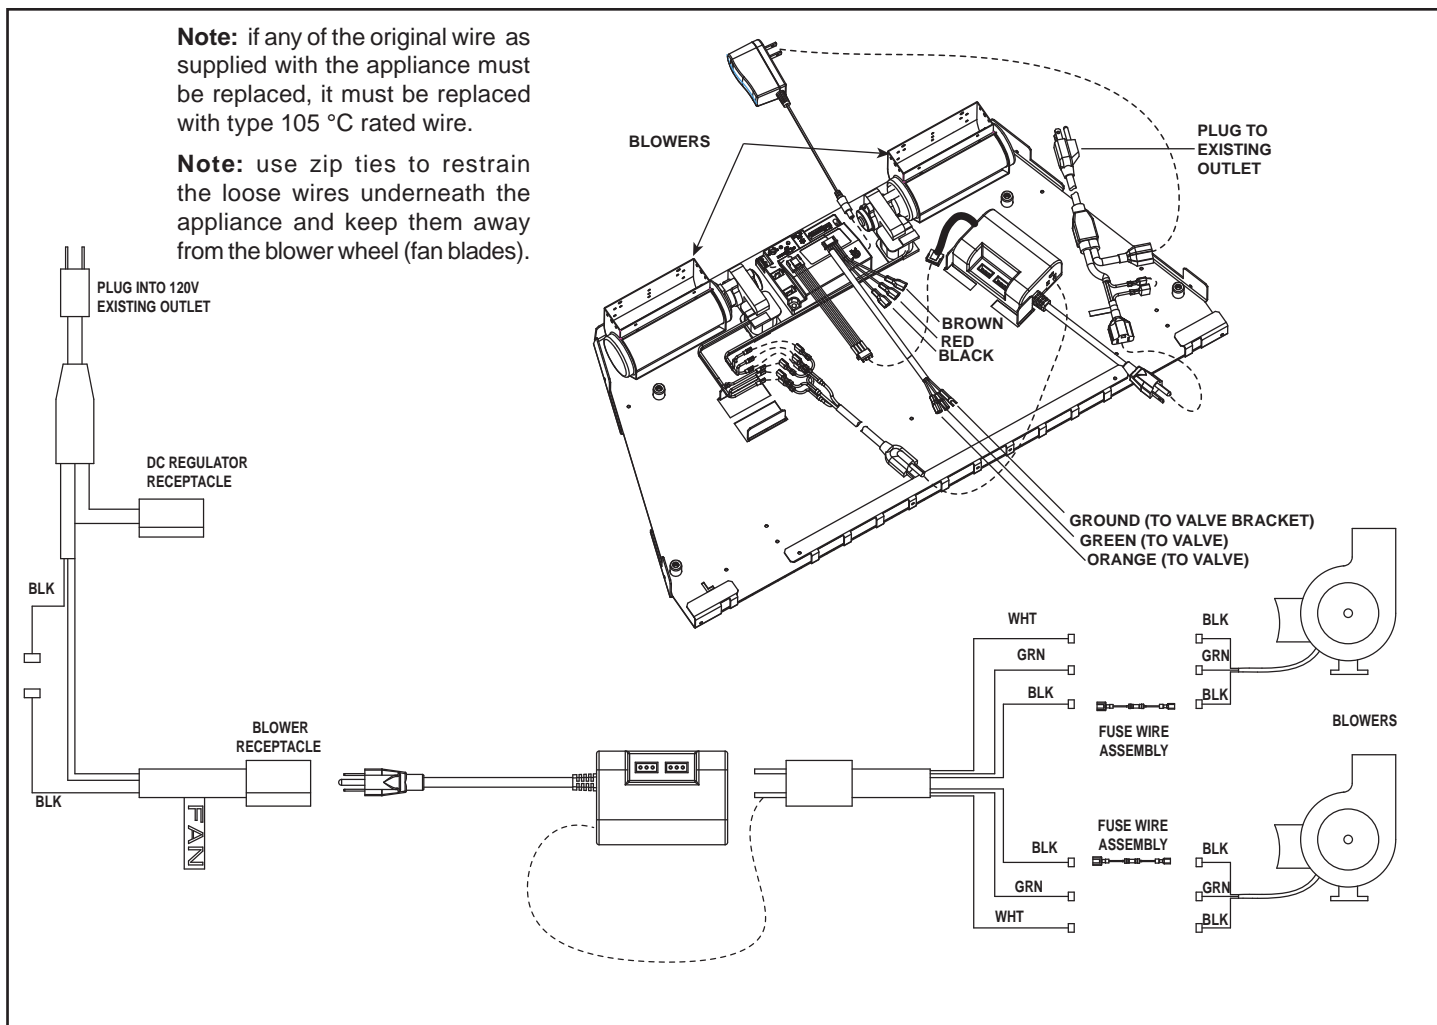

Figure 10. Fan Wiring Diagram - FireBrick Inserts
4. Attach blower to base with two screws. See Figure 9. Connect white and green wires from blower wire assembly to each blower. See Figure 9. Connect the fuse wire assembly in series between black wires of blower wire assembly and each blower. See Figure 10.
5. Insert plug from blower cable assembly into AUX300 receptacle. See Figure 10.